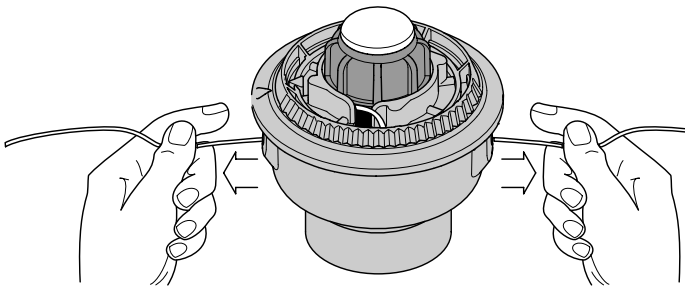

Fig. 22
- If winding the line becomes difficult or the line jams, pull the ends of the line from the spool (Fig. 22). Continue winding the inner reel counterclockwise.
- Hold the inner reel in place and install the bump knob, spring and foam seal. Press down and turn the bump knob clockwise. Grasp the ends and pull firmly to release the line from the holding slots in the inner reel (Fig. 22).
If the SpeedSpool® does not release line correctly, pull the ends of the line firmly from the spool (Fig. 22). If this does not release line, follow the **Cleaning the SpeedSpool®** instructions.